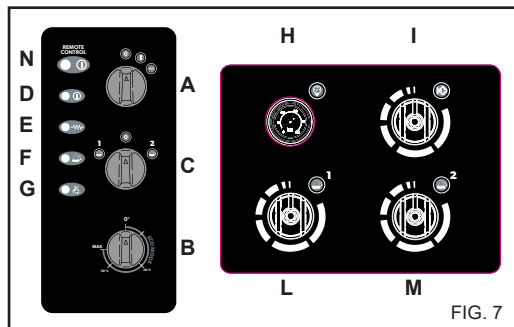

FIG. 7
- 2) Switch on the water cleaner. Select the detergent (1 or 2) with the selector (C, fig. 7). Turn the relevant detergent flow regulator anti-clockwise; (L) for detergent 1 or (M) for detergent 2 (fig. 7) Spray detergent on to the surface to wash, proceeding from the bottom upwards.
- 3) Turn the detergent selector (C, fig. 7) back to position 0. Turn the detergent flow regulators clockwise to stop detergent flow.